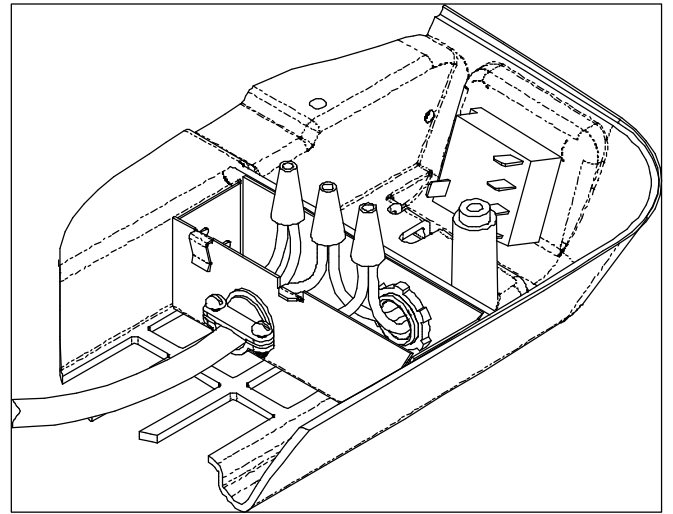

FIGURE 13
- F. Insert the supply wiring through the cable clamp and into the field wiring box so that 4 – 6” of supply conductor is inside the box. Secure the cable clamp over the supply wire sheath so that no movement is possible (See Figure 13).
- G. Connect the supply power conductors to the black and white pigtail wires and the supply ground wire to the green pigtail wire found in the field wiring box using the 3 provided wire nuts. **IMPORTANT** – connect the black supply to the black pigtail and the white supply to the white pigtail. Using a U.L. approved electrical tape, secure the wire nuts to wires in a workmanlike manner (See Figure 13).